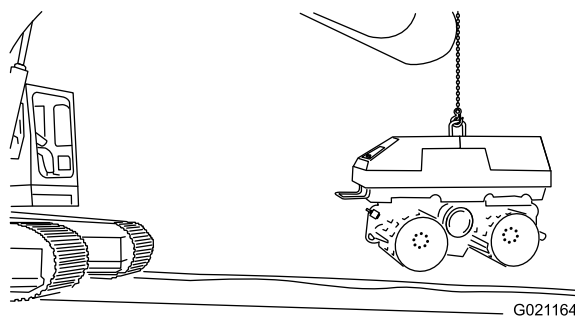

Figure 45
- B. Slowly raise the lifting equipment to rotate the machine so the top of the machine is up (Figure 45).
- A. Secure the lifting equipment to the lifting ring of the machine (Figure 45); refer to Lifting the Machine \(page 30\).